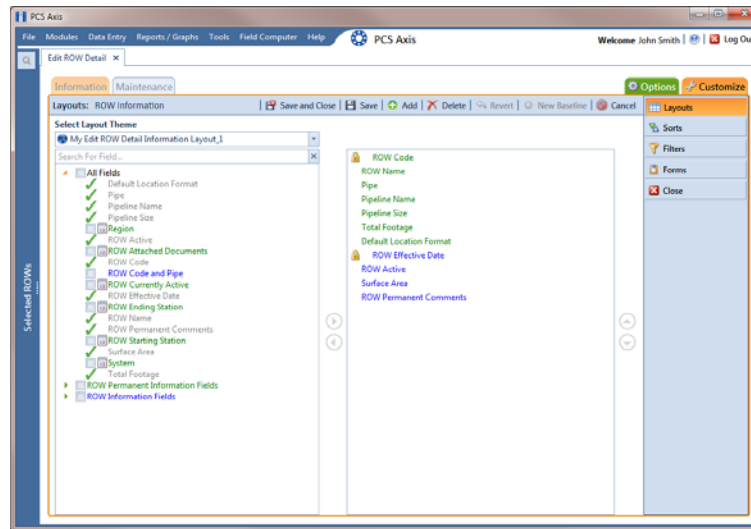

Figure 4-34. Layouts
- 7 Click  **OK** to save changes and return to the *Layouts* page (Figure 4-34).
NOTE: Fields with a lock icon  are required and cannot be removed from the theme, such as  **ROW Code** shown in the previous example (Figure 4-34, page 158).